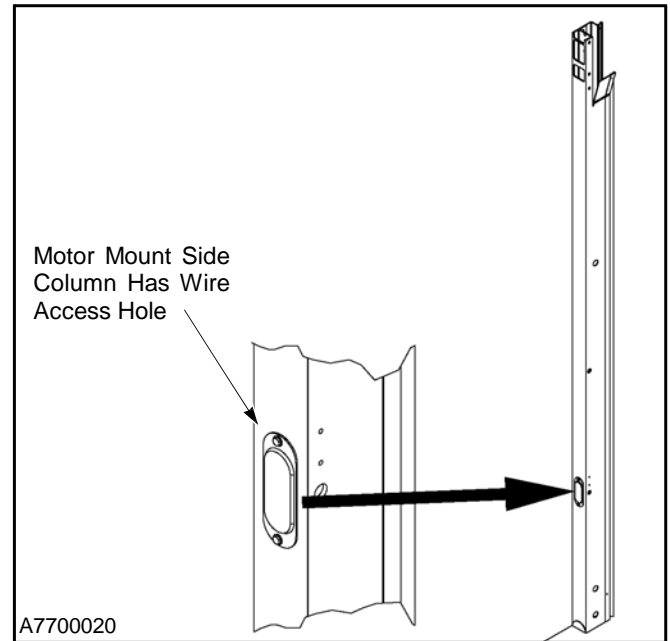

Figure 12
1. Remove the drive motor side column from the shipping crate. The drive motor side column is identified by the wire access hole along its outside edge. (See Figure 12.)